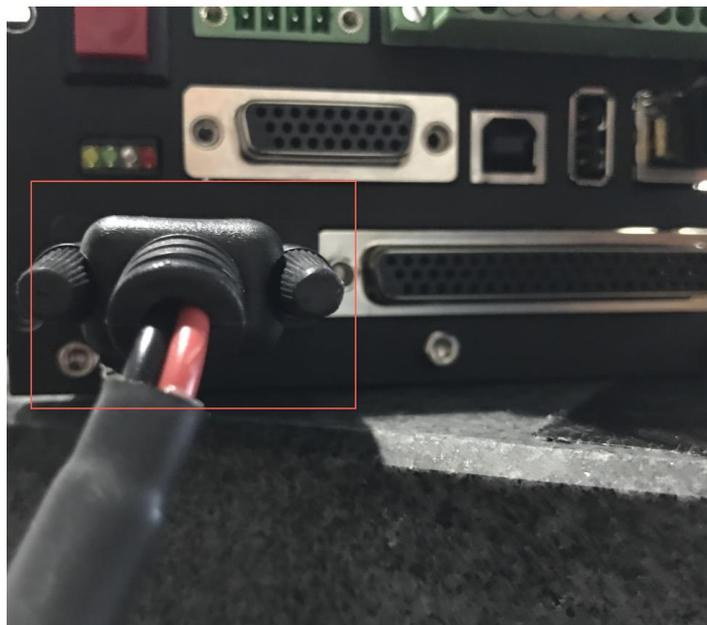

Figure 5.6 Connect to Dobot M1
**Step 3** Connect the other end of the power supply output cable to the power interface on the base of Dobot M1, as shown in Figure 5.6.